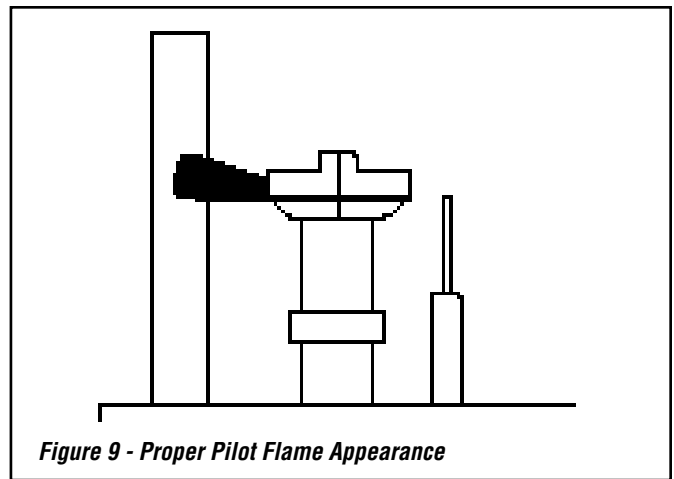

Figure 9 - Proper Pilot Flame Appearance
Step 14. Light the appliance per the lighting instructions label on appliance (located below glass door) or lighting instructions on **Page 13** in the *Installation and Operation Manual*. Inspect for proper pilot and burner flame appearances. See **Figures 9 and 10** or refer to **Pages 14 and 17** of the *Installation and Operation Manual*.